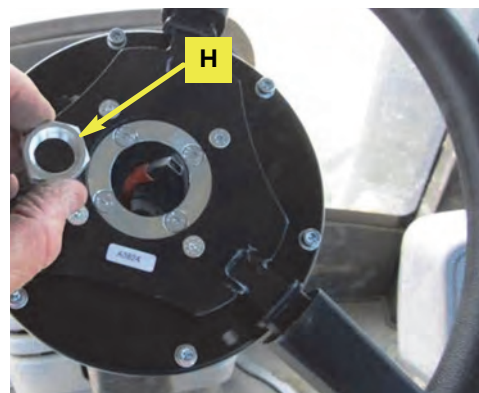

Figure 5b: Securing the steering wheel assembly
- Passing the horn wire through it, use special nut **H**, to secure the steering wheel (Figure 5b).